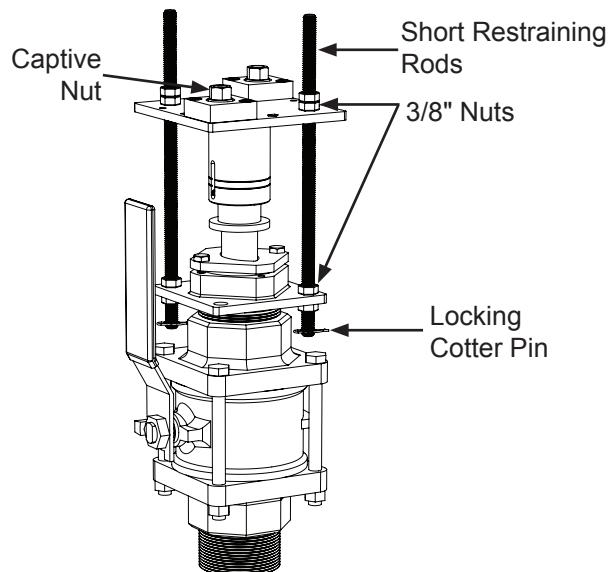

Figure 14: Short Restraining Rods Installation
4.11.1. Secure the short restraining rods to the bottom plate with two 3/8" nuts and a locking cotter pin per rod. Install one of the 3/8" nuts above the bottom plate, and one below the bottom plate. See *Figure 14*.